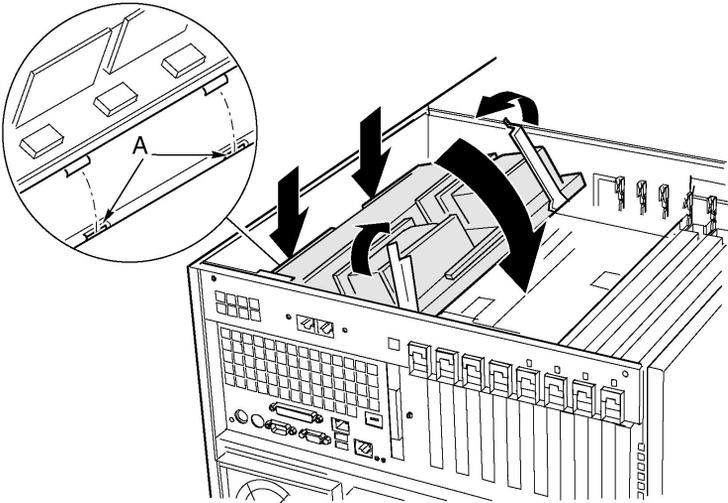

Figure 23 - Installing the processor board
- 1 Insert the tabs on the processor board into the slots on the mainboard bracket (Figure 23, A).